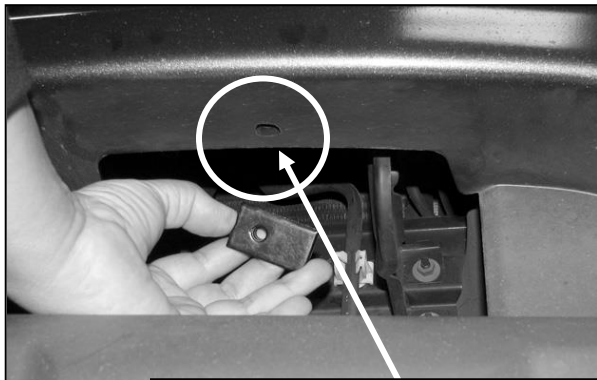

Fig 4
5. Locate and remove the two plastic clips located in the grille opening. Insert (1) 8mm x 25mm Nut plate into the opening and line up the threaded hole with the hole in the grille opening, (**Figure 4**).